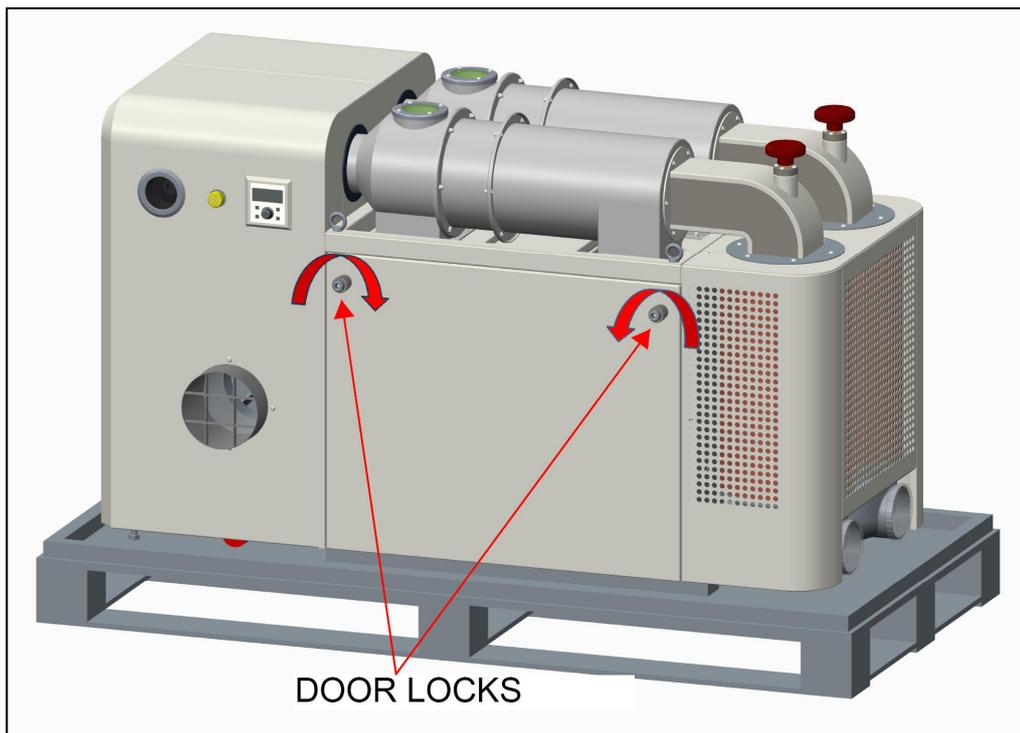
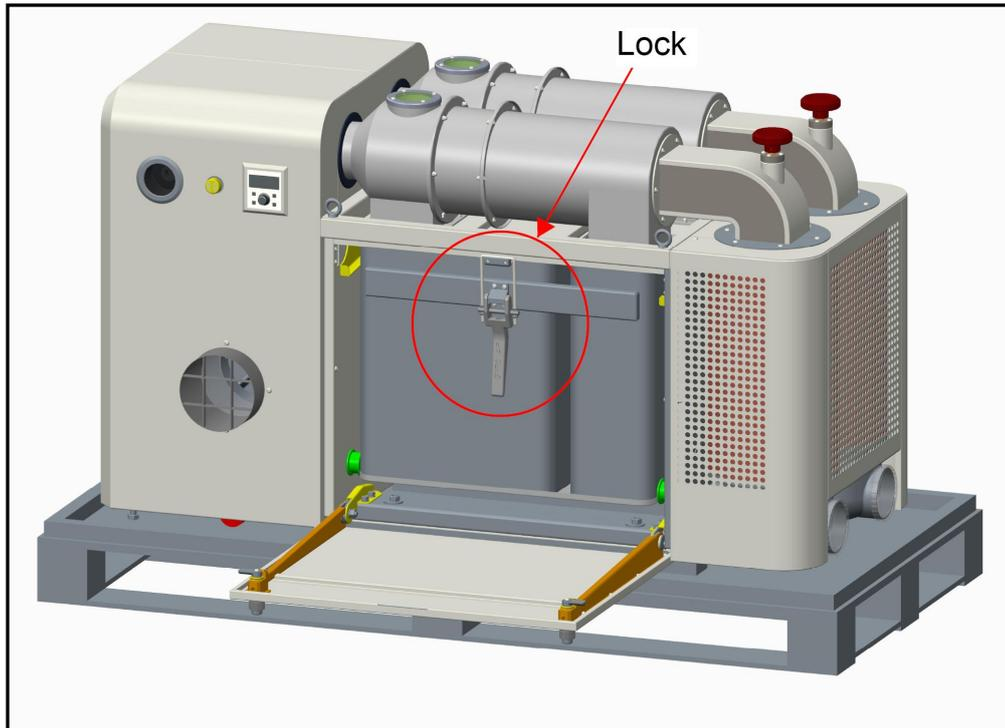

Fig.6
Fig.7
1. Remove the package box, keep the base unit on the pallet. As **Fig.6**
2. Rotating the knobs as arrow indicated (*see Fig.6*) to open the door. Then release the dust bin (*see Fig.7*), you can slide the dust bin out.
Rotate the knobs as the arrow indicates (**see Fig.6**) to open the door. Release the dust bin (**see Fig.7**), you can slide the dust bin out.